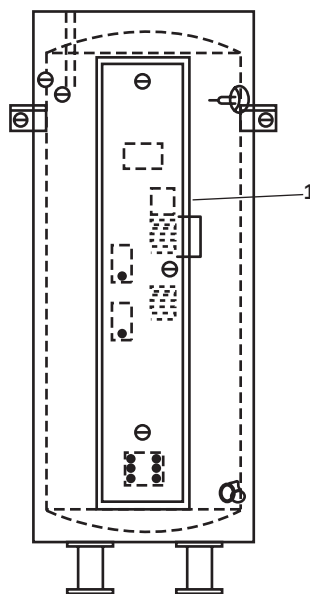

Figure 1. Hot Water Heater
1. Open the access cover (figure 1, item 1).
4. Close the access cover (figure 1, item 1).